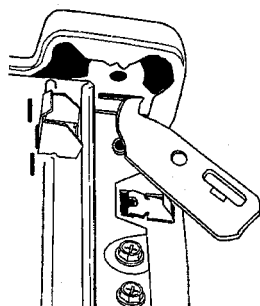

Figure 2-27
3. To remove the hold down brackets, swing the bracket to the outside and unhook the bracket from the slot in the top cover lip, *see Figure 2-27*.